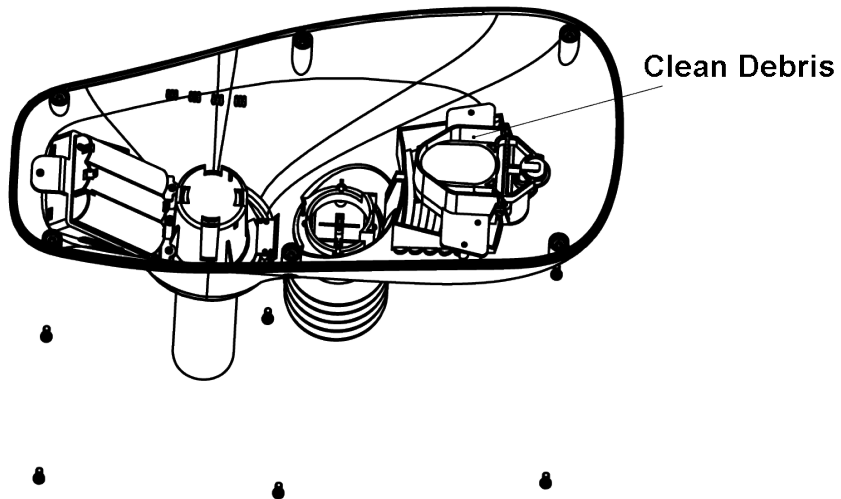

Figure 44
3. Clean any debris and spider webs, as shown in Figure 44.